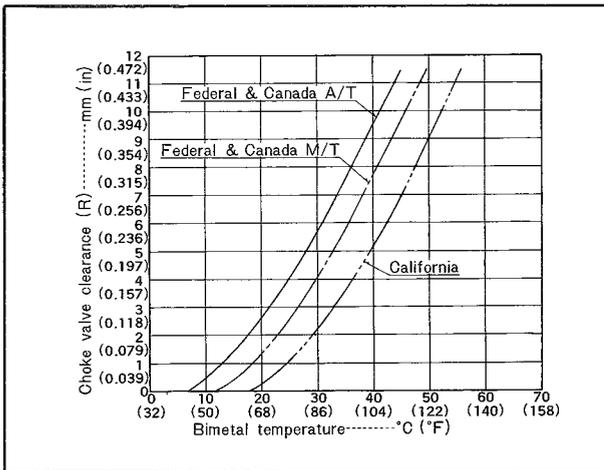

Fig. 4-11 Choke valve clearance
6. Measure the temperature around the bimetal and compare with the specifications shown in Fig. 4-11. If the clearance is not within specifications, adjust the adjusting screw until the proper clearance is obtained.